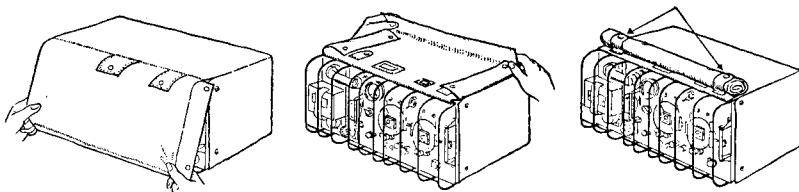

Fig. 6
- (1) Roll up waterproof cover and stow at top of set. (Fig. 6.)